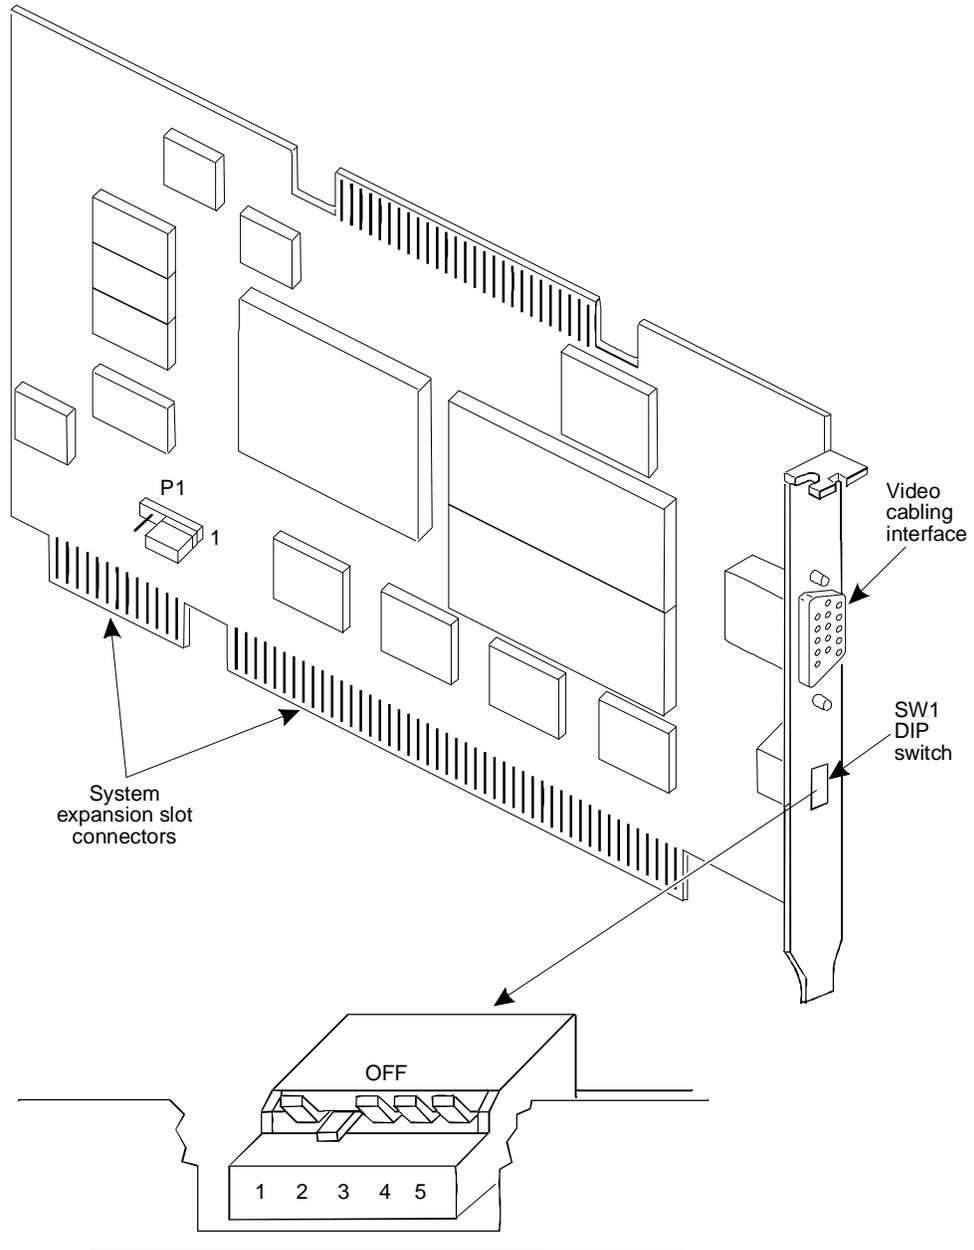

Figure 5-27. WDXLR83160 Video Controller Circuit Card and Switch Settings
- WDXLR83160 (Figure 5-27)
There are no jumpers on the WDXLR83160 video controller card. There are switches which must be set before the circuit card can be installed in the MAP/40 or 40s (Figure 5-27).